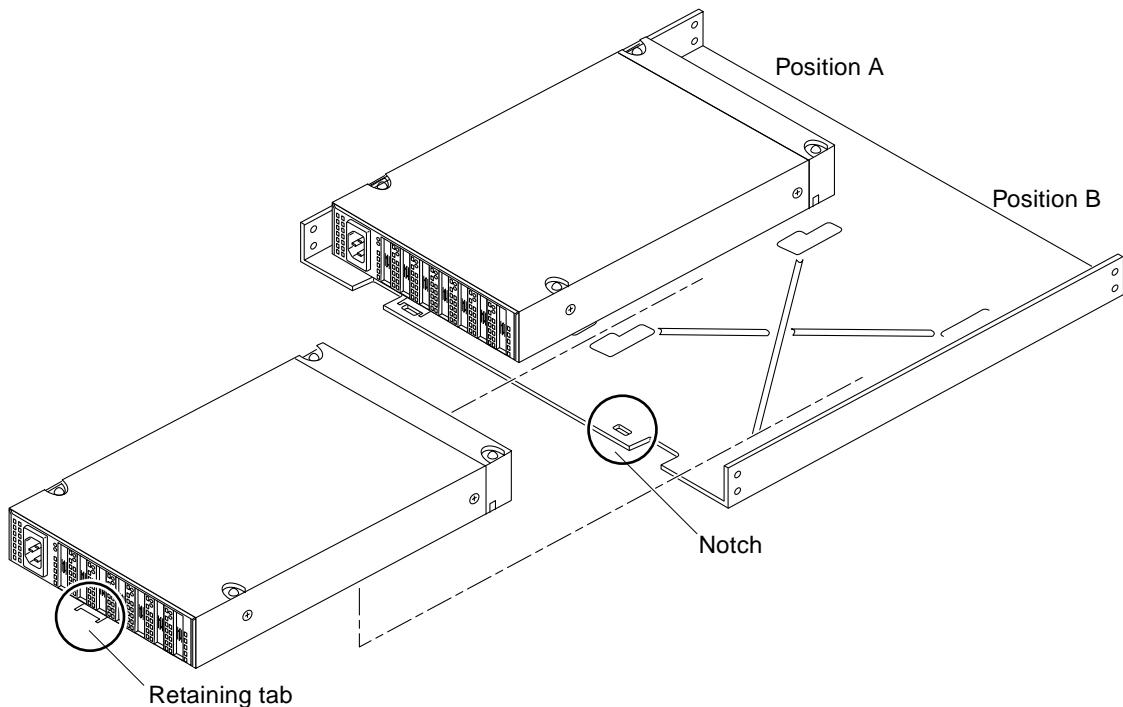

FIGURE 3-5 Removing the Hub
3. Push up on the retaining tab that secures the hub to the mounting tray (FIGURE 3-5).